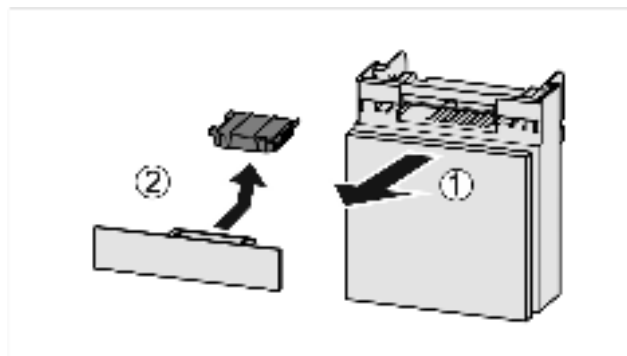

Fig. 34
- Pull out the compartment Fig. 34 (1).
- Remove the carbon filter Fig. 34 (2).